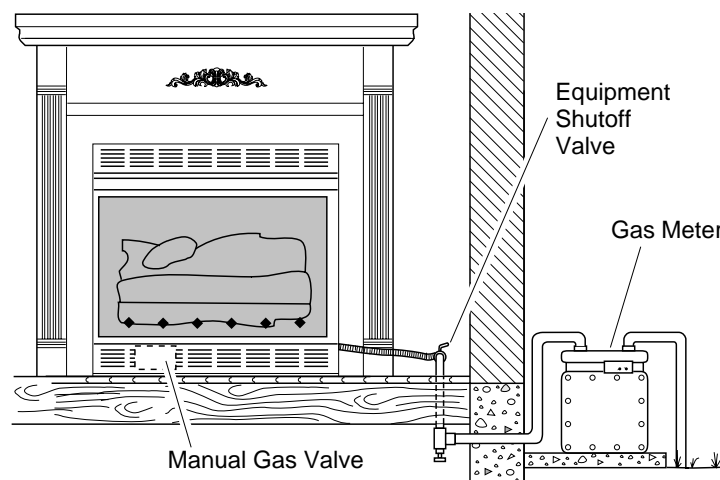

Figure 27 - Checking Gas Joints
3. Check all joints from gas meter to equipment shutoff valve (see Figure 27). Apply mixture of liquid soap and water to gas joints. Bubbles forming show a leak.
4. Check all joints from equipment shutoff valve to gas valve (see Figure 27). Apply mixture of liquid soap and water to gas joints. Bubbles forming show a leak.